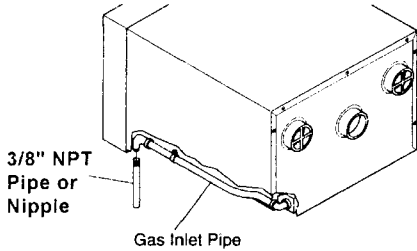

Figure 8 - Connecting Gas from Inside of Room
1. Locate gas inlet pipe on lower, right front of furnace (see Figure 8).
2. Connect 3/8" NPT pipe or nipple to gas inlet pipe (see Figure 8). See *Providing Gas Piping to Furnace* for correct gas pipe installation.